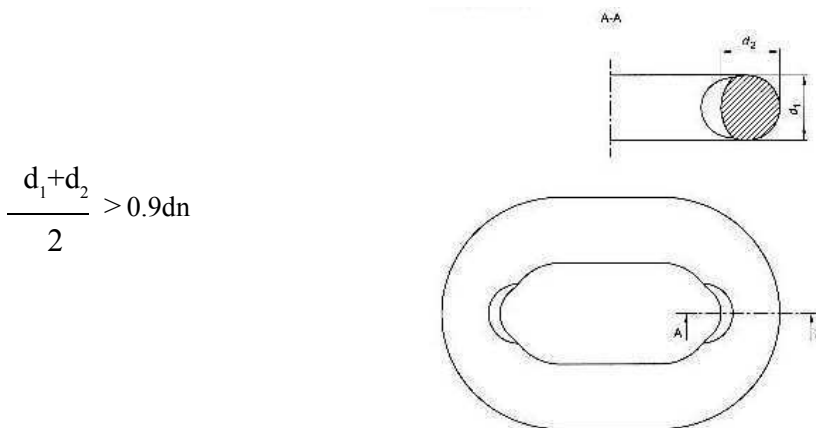

Fig. 5
- **WEAR:** the internal wear of the link can be measured by comparing the mean of the stated diameter (d_1) and the perpendicular diameter (d_2) with the nominal diameter (d_n), a reduction up to 90% of the nominal diameter being allowed (see Fig. 5).